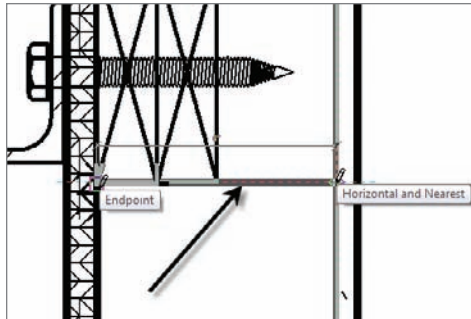

FIGURE 12.48 Drawing a medium line
5. Draw a line, as shown in Figure 12.48. Be sure to use your endpoint and perpendicular snaps.